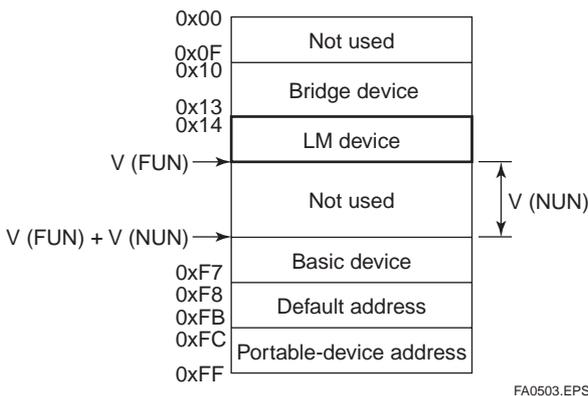

Figure 3. Node Address Ranges
- (3) In the LAS settings of the EJA, set the values of  $V(FUN)$  and  $V(NUN)$  so that they include the node addresses of all nodes within the same segment. (See also Figure 3.)